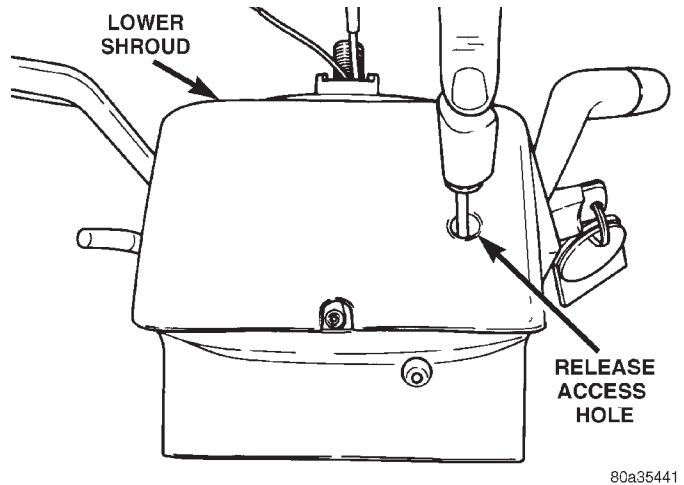
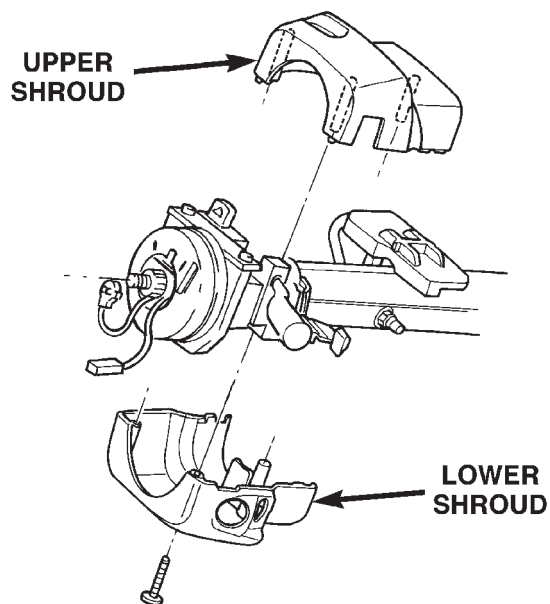

Fig. 2 Key Cylinder Release Access Hole
Fig. 3 Column Shrouds
- (5) Turn ignition cylinder to the on position and remove cylinder by pressing release through lower shroud access hole (Fig. 2).
- (6) Remove knee blocker cover and knee blocker, refer to Group 8E Instrument Panel Systems.
- (7) Remove lower column shroud (Fig. 3).
- (9) Remove upper column shroud (Fig. 3).